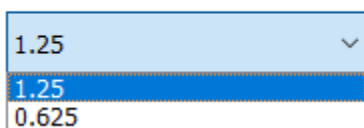

Fig.11 Charge Ref Voltage pull-down menu
The Fire Ref Voltage (V) pull down menu (Fig.11) allows selection between the default value (1.25) or  $\frac{1}{2}$  of the reference voltage (0.625) in order to approximately double the Charge Time per the equation in the datasheet.